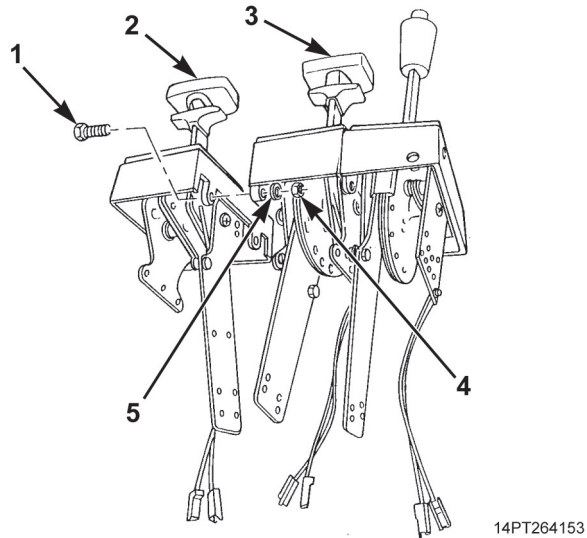

Figure 7. Hydraulic Control Lever Removal.
19. Separate hydraulic control lever (Figure 7, Item 2) from transfer case selector lever (Figure 7, Item 3) by removing two bolts (Figure 7, Item 1), flatwashers (Figure 7, Item 5), and nuts (Figure 7, Item 4).